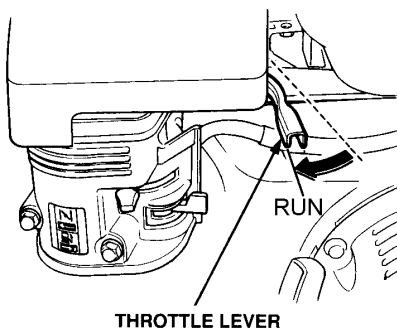

Figure 13. Throttle Lever (Run)
4. To begin mixing, place the throttle lever (Figure 13) in the "RUN" position.